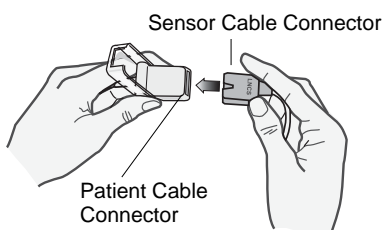

Figure 5
- Lift the clear plastic protective cover from the female end of the patient cable, then plug the sensor cable's male connector all the way into the patient cable connector (see Figure 5).